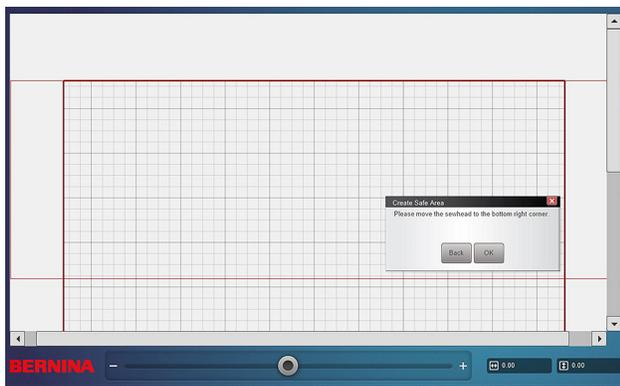

Fig. 10
6. As you move the Sewhead to this point, you will notice a red box (the Safe Area) on your screen (Fig. 10).